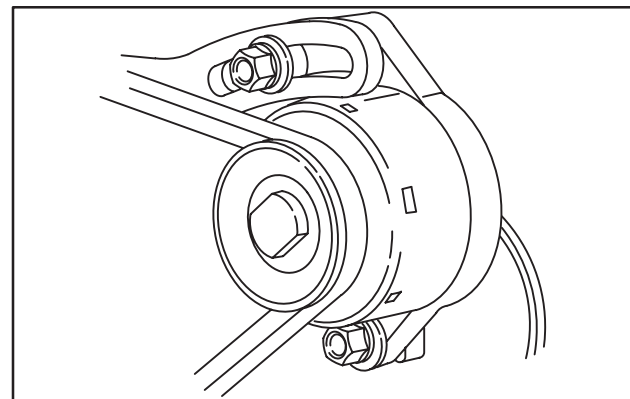

Fig. 9 – 14 Amp Alternator
1. The belt driven permanent magnet alternator produces AC voltage, Fig. 9. AC output will vary with engine RPM, from approximately 7 volts AC at 1000 RPM to 32 volts AC at 3000 RPM.